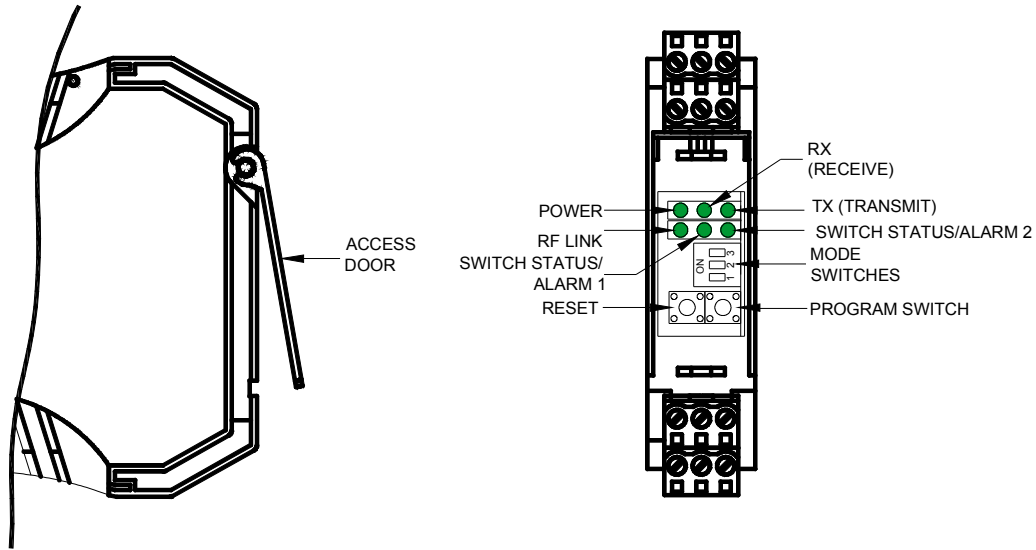

Figure 2 Access door, switch and LED locations.
Transmitter setup is accomplished without software. Access the programming buttons and switches by lifting the access door as shown in figure 2.
When transmitter initially powers up or unit is reset – Transmitter will go through power up sequence (see Section 4.1) – the A1 or A2 LED blinks (4) times to indicate if unit is in Normal RF Mode or Repeater mode. If the system does not have a repeater (Model A759) – it should be in Normal RF Mode (A1 will blink 4x at initial power up – see fig 2). If system does use a repeater – the unit should be in Repeater Mode (A2 will blink 4x at initial power up). To program for Normal RF or Repeater mode , please do the following.
- 4.4.1 Lift Access Door to expose mode, reset, and programming switches (see figure 2).